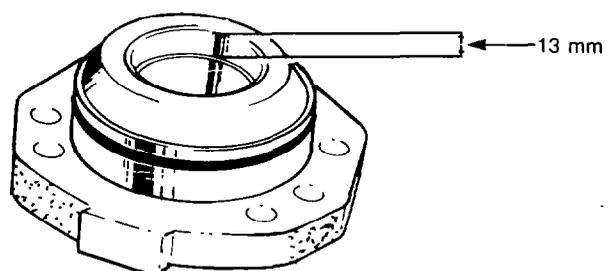

Figure 284 — Gear Cover Bush — Installation
- Using a suitable press, install the bronze bush in the cover until the bush is 13 mm (0.50 in.) below the face of the cover (see Fig. 284).